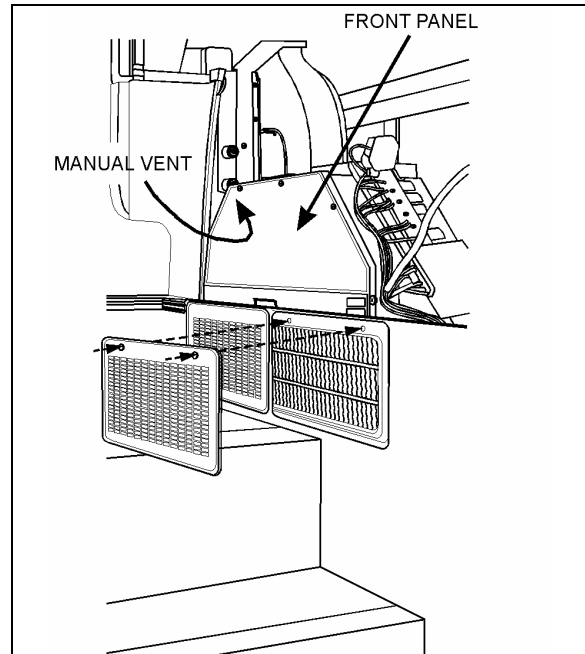

FIGURE 47: DRIVER'S HVAC UNIT
4. From inside of vehicle, remove the two finishing panels in front of unit. Remove the three screws fixing the unit front panel. Open the manual vent located inside the HVAC unit, on the driver's side (Fig. 47) to ensure an efficient draining.
Whenever the heating system has been drained and refilled, or the system has run low on coolant and coolant has been added, it is necessary to bleed air from heating system. Locate the manual vents illustrated in Figures 47 and 51, and open them momentarily until no air escapes from the lines.